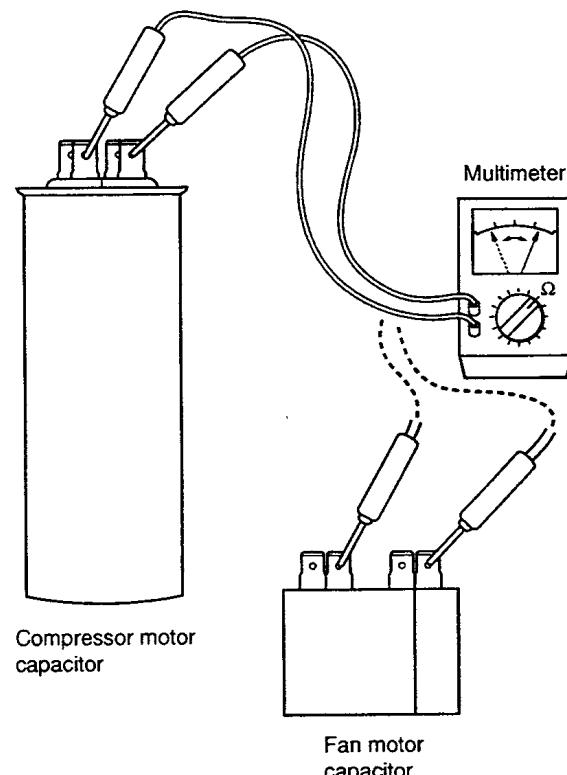

Fig. 11
- ⑤ **Motor capacitor** **Both in indoor and outdoor unit**
- Remove the lead wires from the capacitor terminals, and then place a probe on the capacitor terminals as shown in **Fig. 11**. Observe the deflection of the pointer, setting the resistance measuring range of the multimeter to the maximum value.